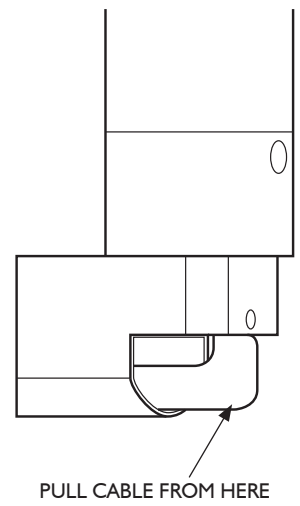

FIGURE 4
8. Complete the removal by pulling the light cord and fish tape through the bottom of the light post. **Figure 4.**